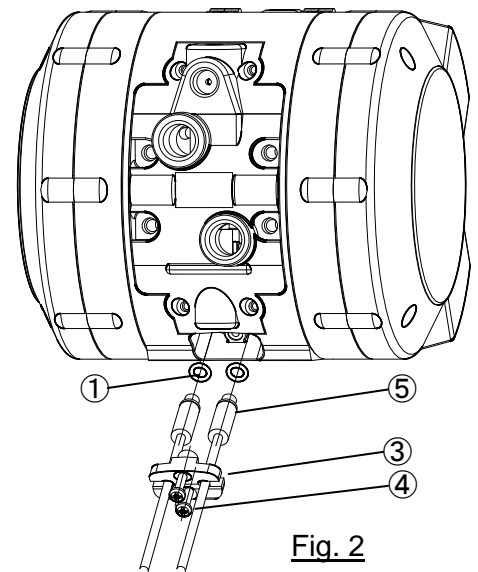

Fig. 2
When pilot valve is pushed out at stroke end, built-in directional control valve is shifted, and starts reverse operation (Fig. 2). This repeated operation realizes continuous suction and discharge.
2. Mount the O-ring again to the part from which it is removed, and insert two leakage sensors there. Put the leakage sensor cover back to the part with the round head Philips screws (tightening torque: **0.125N·m**) (Fig. 2).